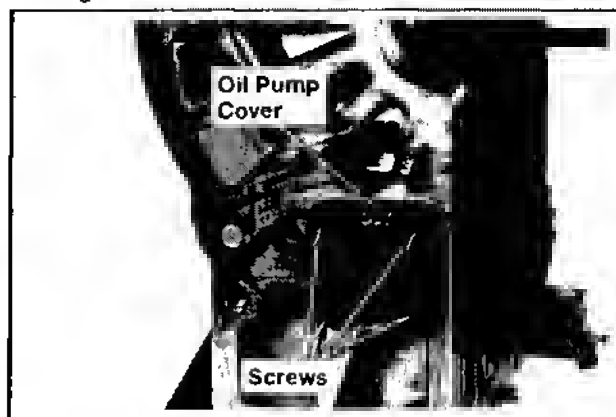

Figure 11-5. Installing Oil Pump Cover.
6. Install the cover (side marked "OUT" away from crankcase) and self-tapping screws. Refer to Figure 11-5.